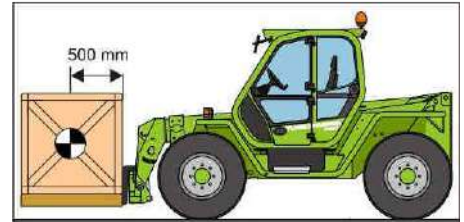
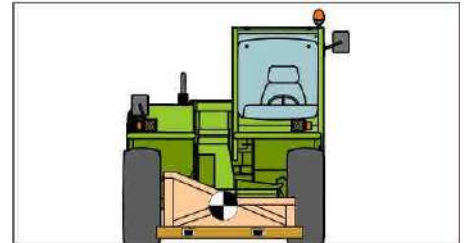

Fig.1
Fig.2
- extend the telescopic boom, so as to move closer to the fork couplings (Fig.1)
- raise the telescopic boom, while at the same time rotating the carriage upwards, until the forks are correctly coupled. During this operation, the carriage automatically lifts safety pin "B" of the forks (Fig. 2 and 3).
- lift pin 'B' from its safety position (Fig. 1) to a released position (Fig. 2), and check that it is kept in a lifted position
Before lifting a load, its weight and centre of gravity need to be established. Note that the centre of gravity of a load on the forks is calculated at 500 mm (600 mm for models P60.10 - P60.10EE - P72.10 - P72.10EE) from the heel of the forks (Fig.1)
If irregular loads are manoeuvred, the centre of gravity needs to be calculated transversely before each manoeuvre (Fig.2).
- roof rotating flashing beacon (figure 1)
- water level in the radiator (figure 2)